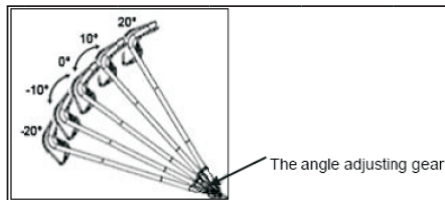

Fig.3
2. Rotating the upper handle centered of the angle adjusting gear for adjusted appropriate angle into the scope -20° to 20° as the Fig.3 shown;